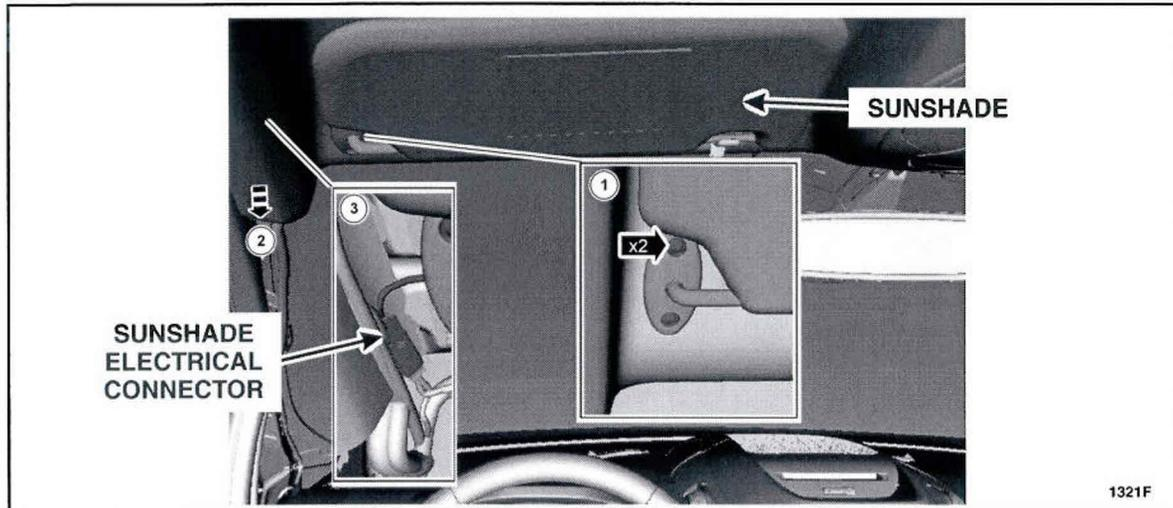

FIGURE 11
14. Remove the RH and LH sunshade (visor) from the vehicle. See Figure 11.
22. Install the RH and LH sunshade (visor). See Figure 11.